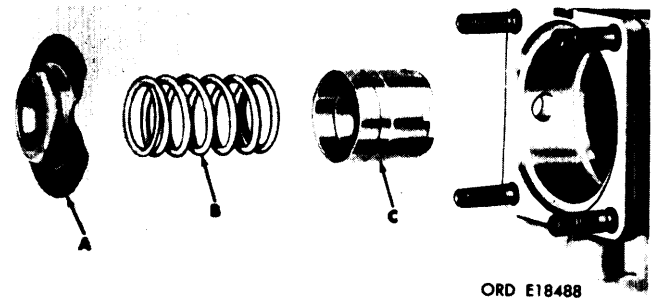

Figure 3-24. Removing tappet assembly.
c. Refer to figure 3-24. Remove plunger spring seat (A), plunger outer spring (B), and tappet assembly (C).